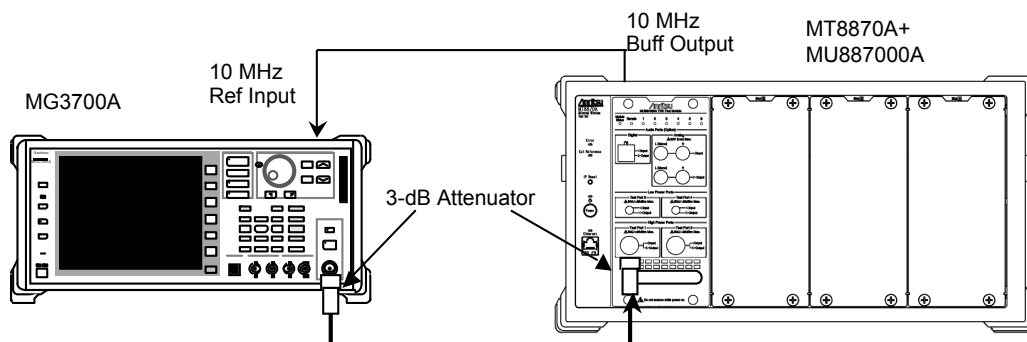

Figure 6.4.1-1 Setup for Measuring Amplitude Measurement Accuracy
1. Setup the instruments as shown in Figure 6.4.1-1.